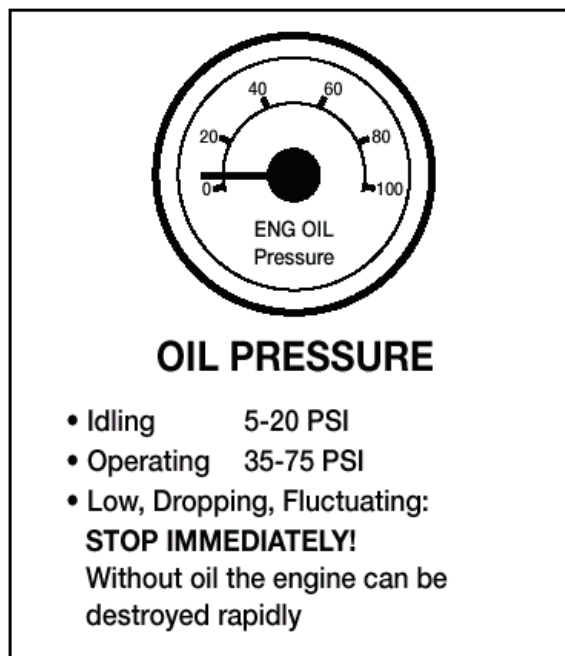

Figure 2.5
- ✓ Oil pressure. Pressure should come up to normal within seconds after engine is started. See Figure 2.5.